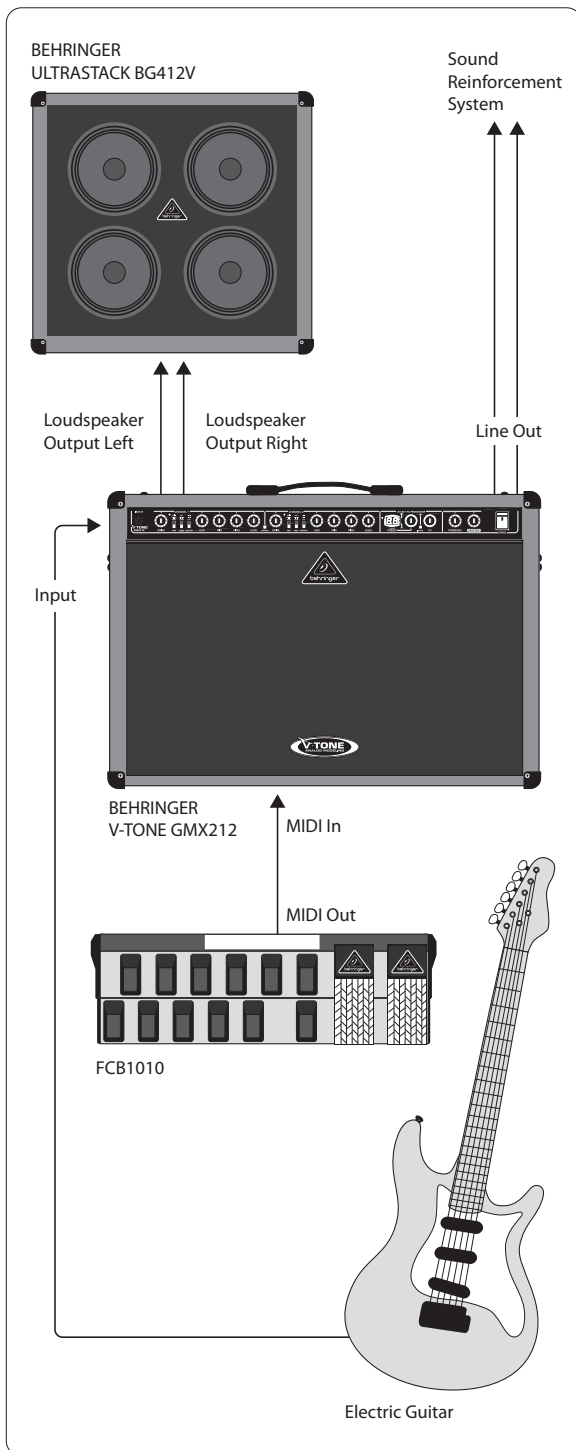

Fig. 3.3: Setup with a MIDI foot controller and an external loudspeaker
- Connect the MIDI IN connector of your V-TONE to the MIDI OUT jack of a MIDI foot controller (see fig. 3.3).